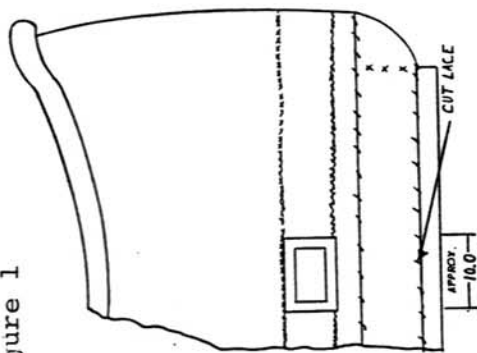

Figure 2
Step 2: Lift leather scuff and slide stainless plate and rubber buffer under. Position as shown by dotted line area and slide upward to provide snug fit against wicker (see Figure 2).